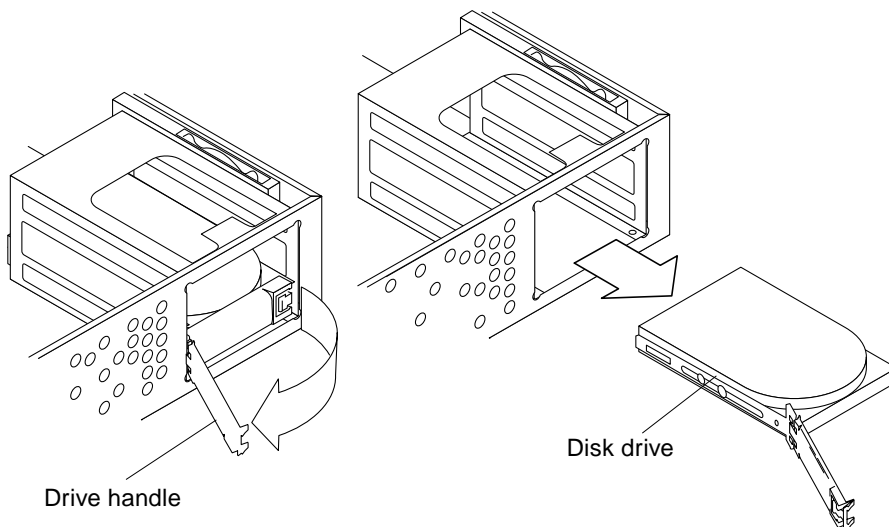

FIGURE 9-2 Removing the Disk Drive
6. Fully extend the disk drive handle to disconnect the disk drive from the system (FIGURE 9-2).